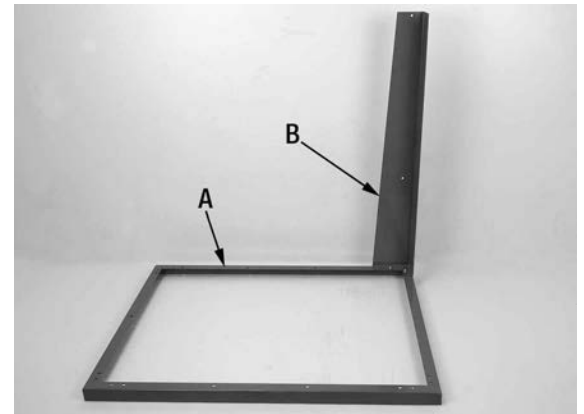
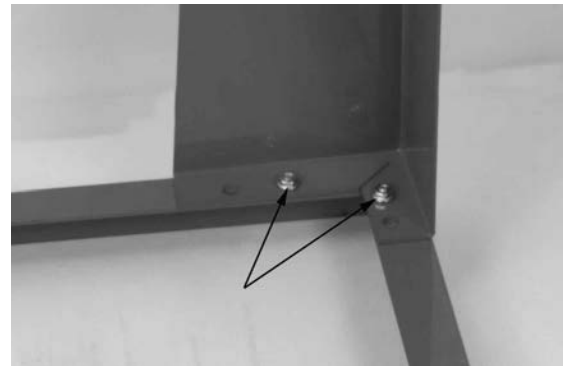

FIGURE 1
FIGURE 2
- 1) Position the stand frame (A) Fig.1 with its mounting holes on top on a level surface. Install the 4 legs (B) to the stand frame using only two countersunk head screws and hex. nuts in each corner, exactly as shown in Fig.2. Only hand tighten hardware at this point.